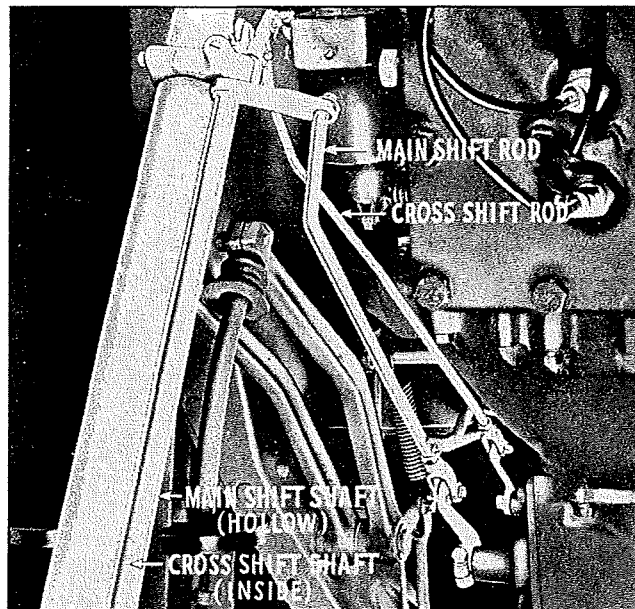

Fig. 37—Studebaker Commander and President 1939
1939 Commander & President: (See Fig. 37.) (1)—Disconnect the control rods from the levers on the transmission side cover. (2)—Place the hand control lever in the neutral position, which is determined by